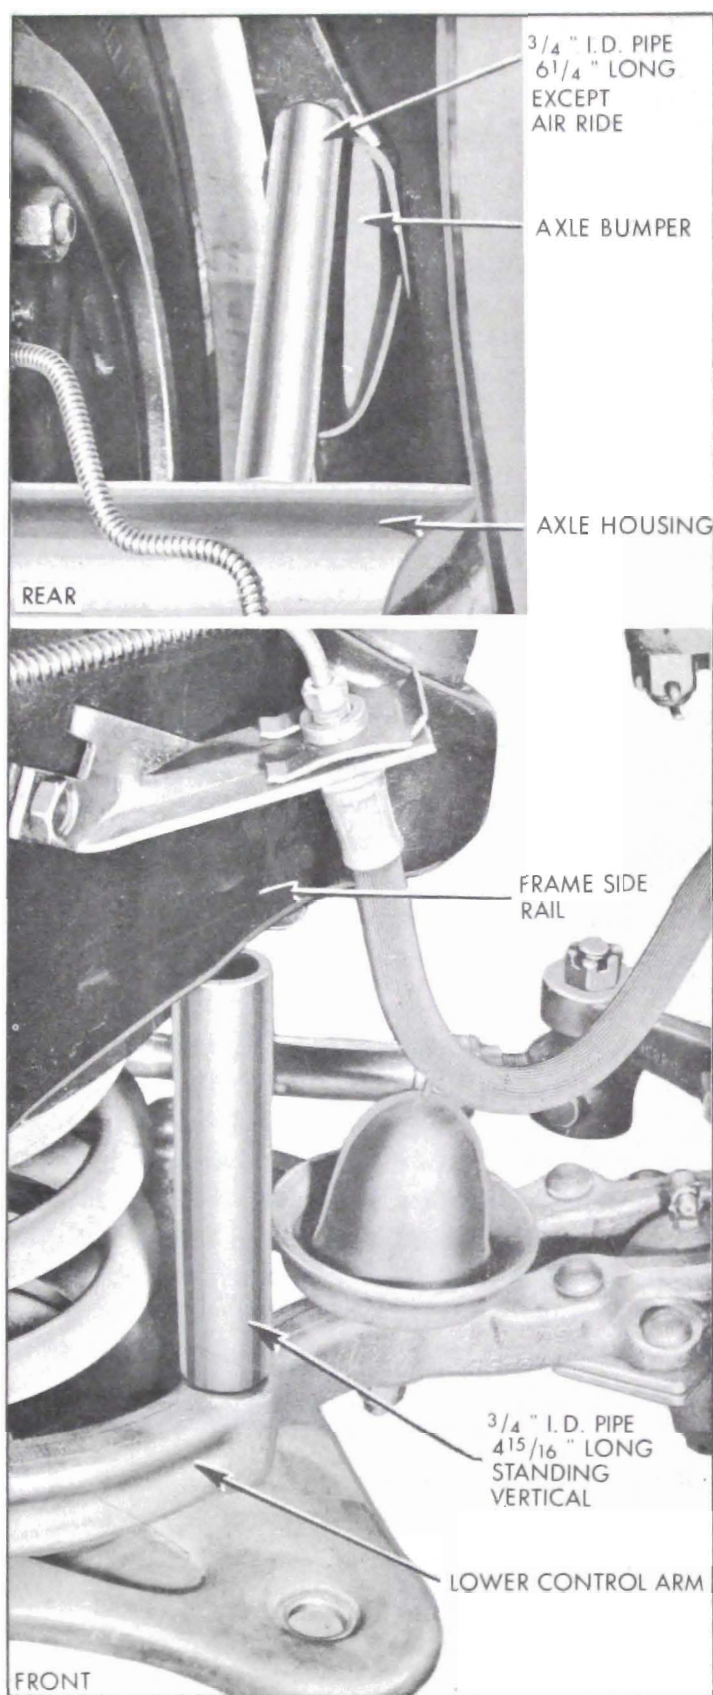

Figure 7-18—Alignment Pins in Place
8. Car must be on level surface. Place a piece of  $\frac{3}{4}$ " I.D. pipe  $4\frac{15}{16}$ " long between frame and lower control arm at each front wheel as shown in figure 7-18. Position the pipe over the front outer spring seat rivet and make sure it is standing vertical. Use sand bags or other suitable weights when necessary to hold car down on pipes.
9. Bring the rear of the car to proper height. If the gas tank is full and the trunk empty except for spare tire and jack on a coil spring job, the rear of the car may be considered at the proper height. If these conditions cannot be met, a  $\frac{3}{4}$ " I.D. pipe pin  $6\frac{1}{4}$ " long should be placed between the axle housing and the axle bumper stop as shown in Figure 7-18.
ALL MEASUREMENTS EXCEPT TOE IN TO BE TAKEN WITH ALIGNMENT PIPE PINS IN PLACE-SEE FIG. 7-18